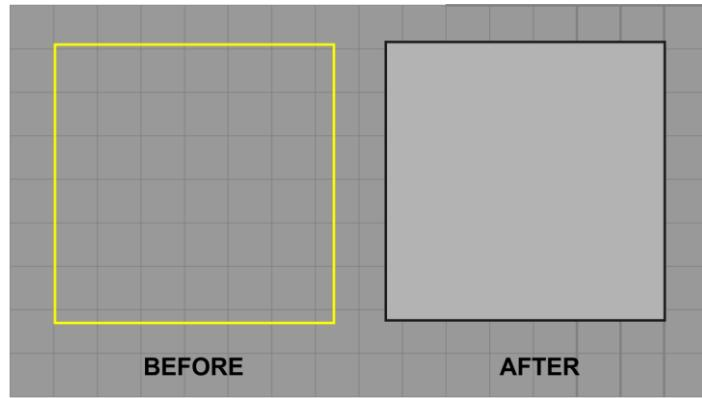

Figure 13. Finding a face.
- Press **Enter** to generate a face. The area is filled with a slight dark colour indicating a face is found for that area, as shown in Figure 13.